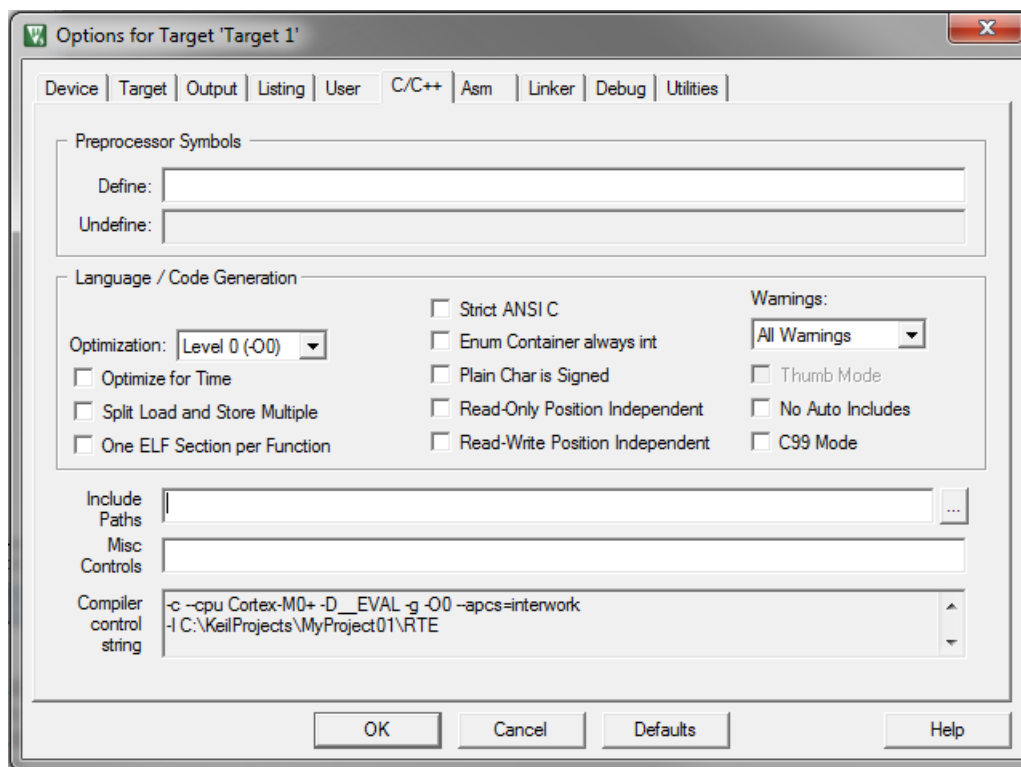

Figure 1-32. Library path addition
2. Select the C/C++ tab. See Figure 1-32.